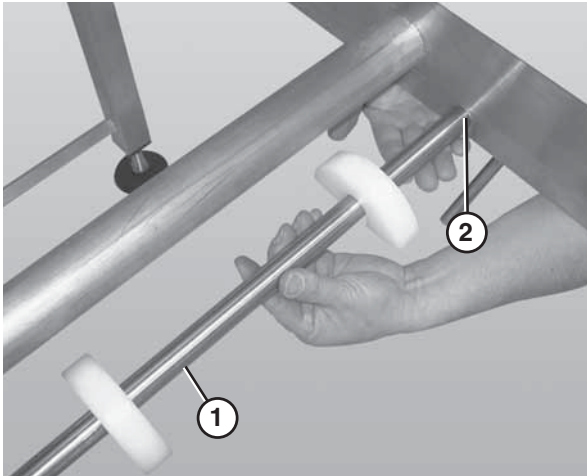

Figure 66
1. Remove the belt returns by pushing up on the return shaft (**Figure 66, item 1**) and sliding it through the large hole (**Figure 66, item 2**) in the frame.
2. Lower the opposite end of the return shaft (**Figure 66, item 1**) and slide it out of the frame.